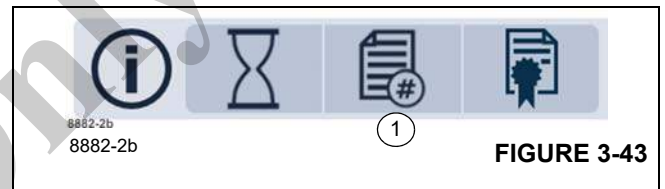

FIGURE 3-43
To open the software version menu select the icon (1) in (Figure 3-43).